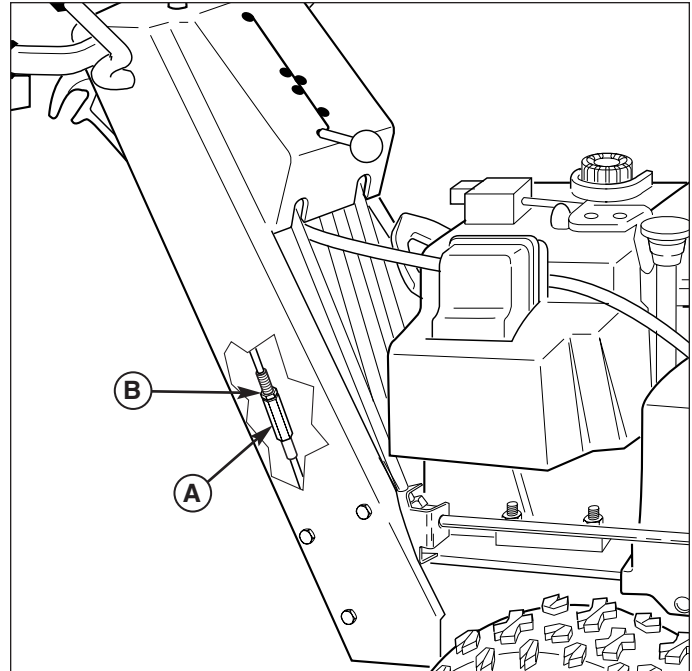

Figure 20. Cable Adjustment
2. Loosen the jam nut (B, Figure 20).
3. Turn the adjustment nut (A) to lengthen or shorten the cable. The cable should be tightened just until all slack is removed from the lever, however it must not engage the Easy Turn™ release without depressing the control lever.